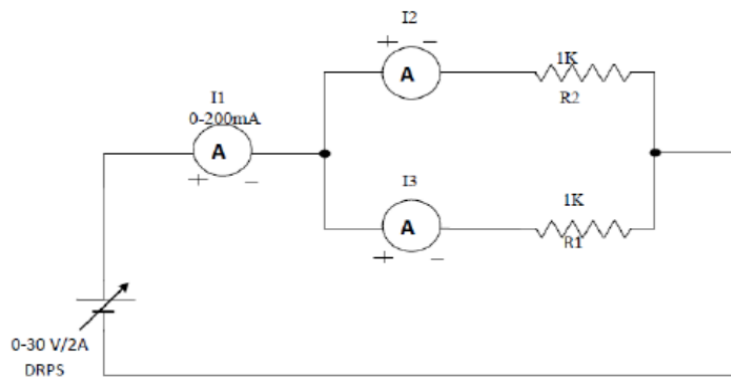

Fig 1.2
1. Connect the circuit as shown in the figure 1.2.